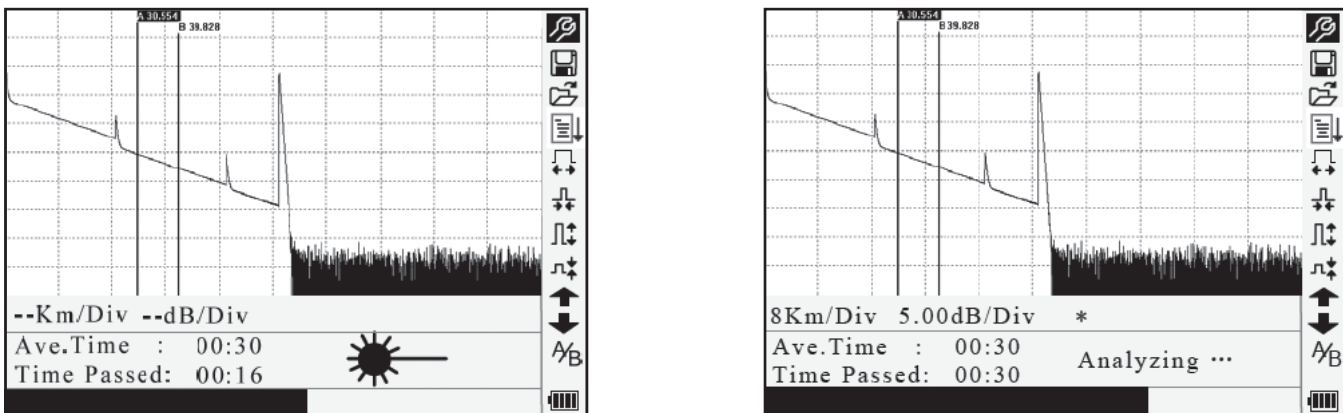

Figure 4-3. Measuring
2. Press Run/Stop to start the measurement (Figure 4-3).